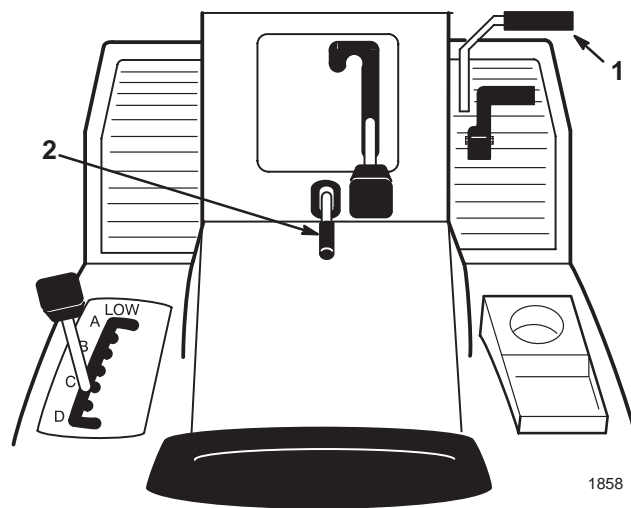

Figure 2
1. Push the brake pedal (Fig. 2) down and hold it in the depressed position.
2. Lift the parking brake lever (Fig. 2) up and gradually take your foot off of the brake pedal. The brake pedal should stay in the depressed (locked) position.
1. Push down on the brake pedal (Fig. 2). The parking brake lever should release.